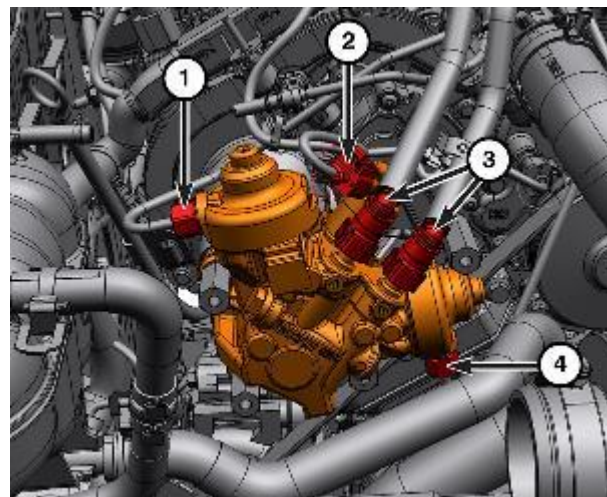

Figure 48 - HPFP Connections
25. Disconnect the low-pressure fuel supply lines (3) (Figure 48).
26. Disconnect the fuel quantity solenoid wire harness connector (2) (Figure 48).